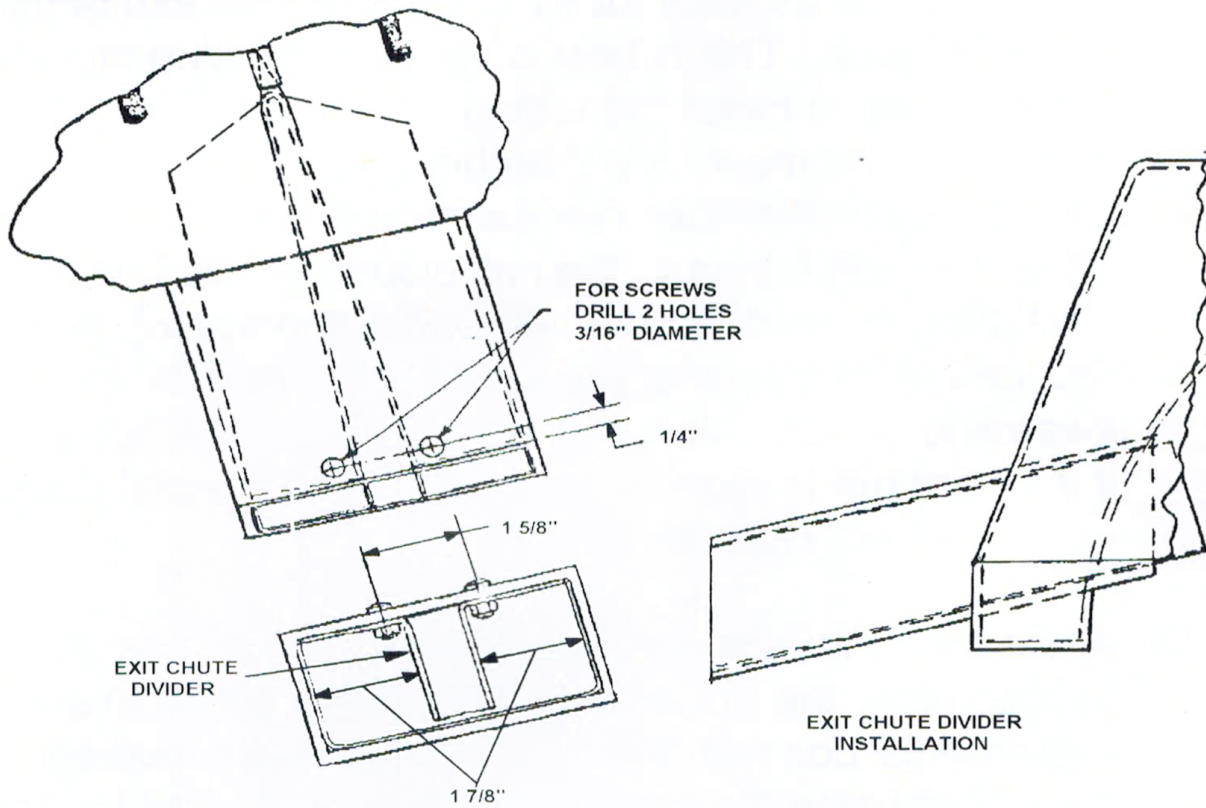

Figure 1
1. Insert and fasten chute divider as shown in Figure 1.